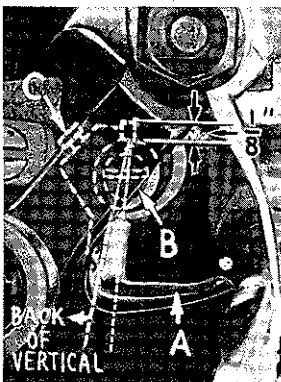

Fig. 9
Insert upper looper (A, Fig. 9) in its holder. Screw (B) holds upper looper in its holder, and permits it to be pushed in or out or turned around its shank. Insert upper looper holder into upper looper shaft, if it is not already in place. Screw (C) on clamp holds the upper looper holder in the shaft. Locate upper looper in its holder so that the shank extends $\frac{1}{8}$ inch beyond holder.
When the upper looper is at the right end of its stroke, upper looper holder should be set to position upper looper shank slightly back of vertical (Fig. 9).